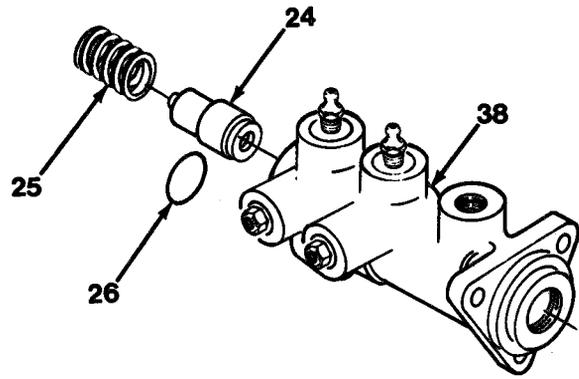

Figure 13-7
7. Install spring (25) and piston (24, Figure 13-7).